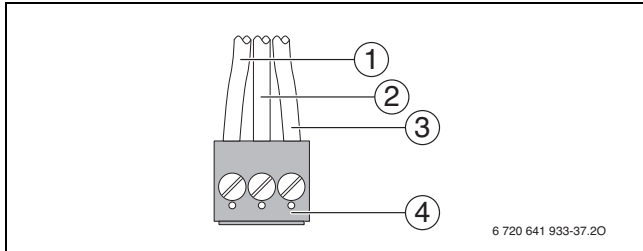

Fig. 56 Attach plug (external DHW tank loading pump or 3-way valve)
- Connect cable to **the red plug** according to Fig. 56.